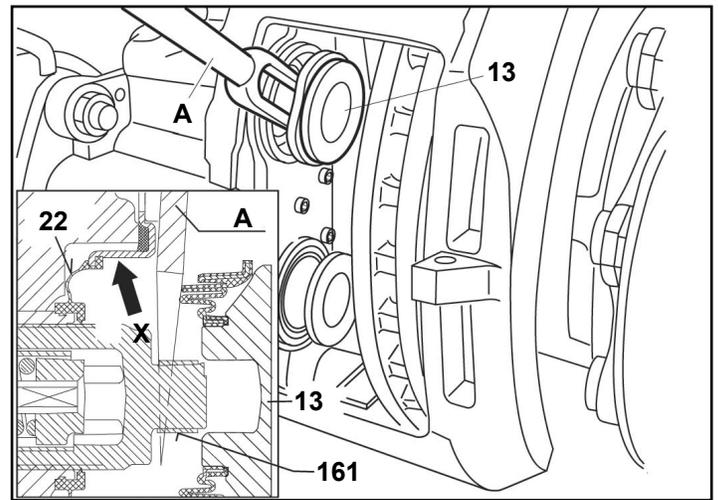

FIGURE 5 - WEDGE TOOL USE
less than 1.18 in. (30 mm) by turning the shear adapter (61) clockwise until there is sufficient access to the boots to remove the tappet boot from the caliper bore. A screwdriver (B) should be used to move the boot location ring - see Figure 5 and allow the wedge fork (A) to be inserted. **CAUTION:** Take care not to damage the inner sealing face (see arrow "X" in Figure 5). Gouges or grooves that would prevent a good seal necessitate caliper replacement.